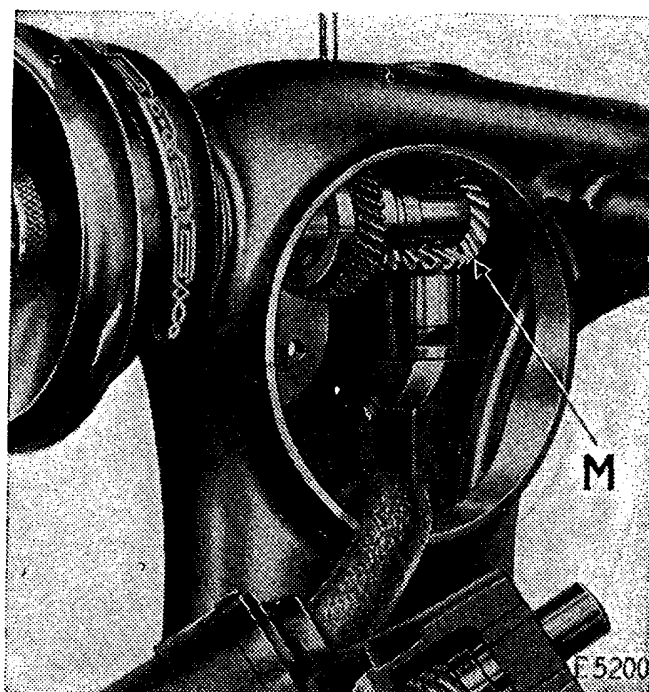
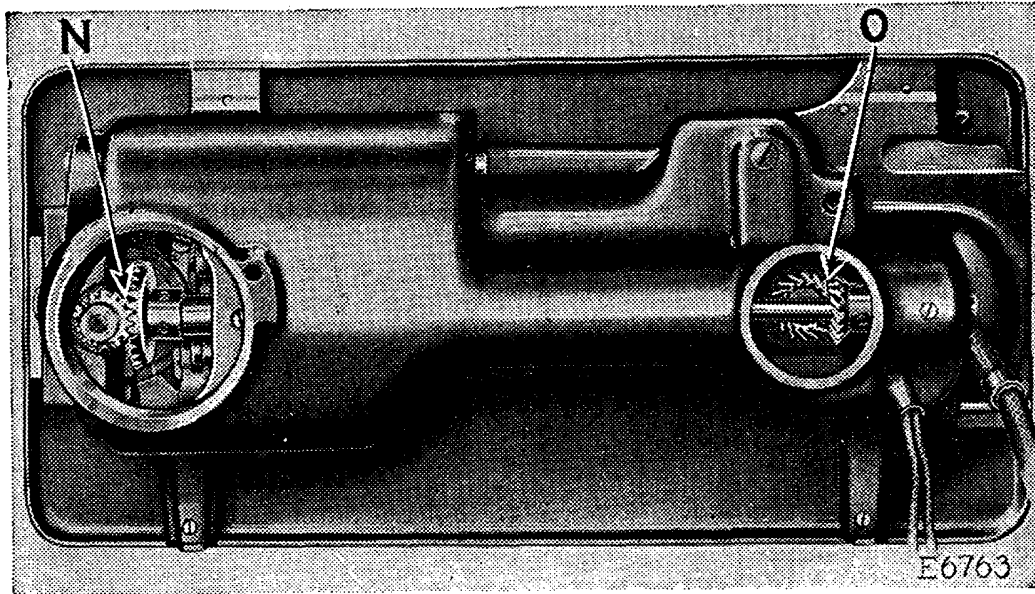

FIG. 32. BACK VIEW, SHOWING BEVEL GEARS IN ARM OF MACHINE
FIG. 33. BASE VIEW, SHOWING BEVEL GEARS
- (g) Apply **SINGER MOTOR LUBRICANT** to the teeth of the two bevel gears (M, Fig. 32) next the spiral gears. (The greasing of these two bevel gears should be done at the same time when the motor grease cups are refilled, inasmuch as they can only be reached when the motor has been withdrawn from the sewing machine head).
1. There are three sets of bevel gears in the machine, as shown at (M, Fig. 32) and (N and O, Fig. 33). These bevel gears should be greased once a year, preferably at the time of greasing the motor.
2. The method of greasing the upper set of bevel gears (M, Fig. 32), i.e., those which are located in close proximity to the motor itself, has been explained under the heading "To Lubricate the Motor."
3. The two lower sets of bevel gears (N and O, Fig. 33) are exposed by removing the two round